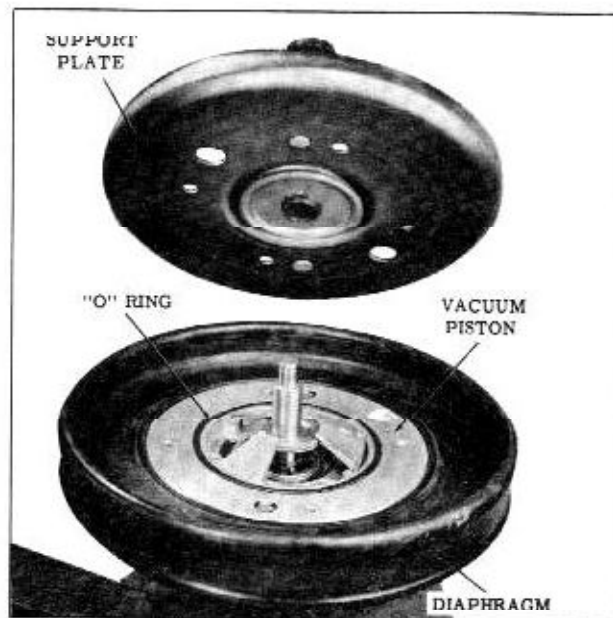

Fig. 7-25 Piston and Support Plate
8. Install the vacuum piston to support plate "O" ring in groove on vacuum piston. (Fig. 7-25)
13. Place diaphragm on the vacuum piston so that the inner bead of diaphragm is positioned in outer groove of vacuum piston. (Fig. 7-25)